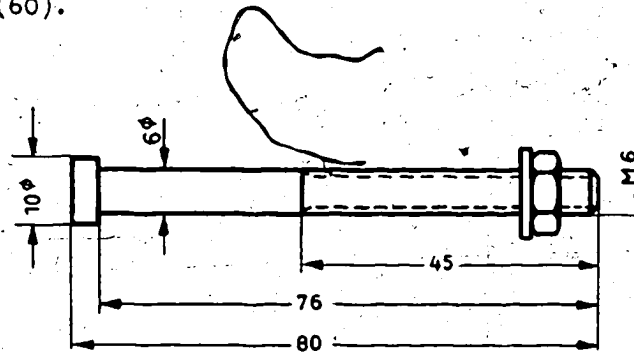

Fig. 2 Auxiliary bolt (not supplied)
1 auxiliary screw	see page 2, Fig. 2
- a) Unscrew bearing bolt (59) together with guide nut (67) from carrier bolt (61).
- b) Remove snap ring (63) by using an auxiliary bolt (to be made according to the sketch, Fig. 2). Insert it instead of the carrier bolt (61), and tension drag spring (65) by screwing-on a nut with washer.
- c) Remove spring plate (62), drag spring (65) and adjusting washer (60).